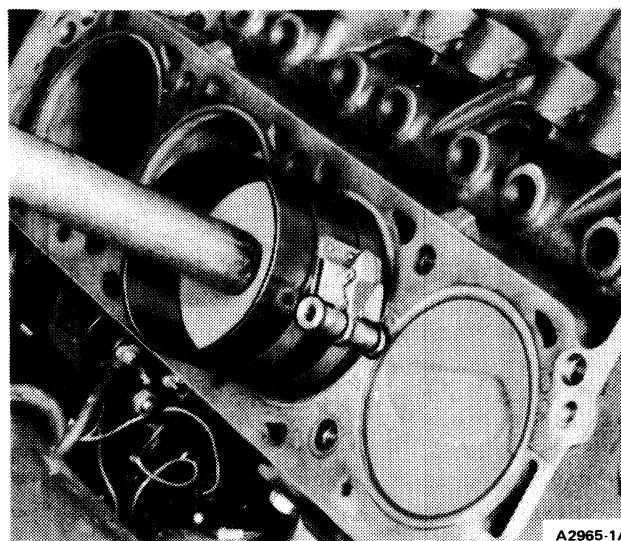

FIG. 32 Installing Piston Assembly
4. Install piston ring compressor on piston and push in with hammer handle until it is slightly below top of cylinder (Fig. 32). Be sure to guide connecting rods while tapping them into position to avoid damaging crankshaft journals. **Install piston with indentation notch in piston head toward front of engine.**